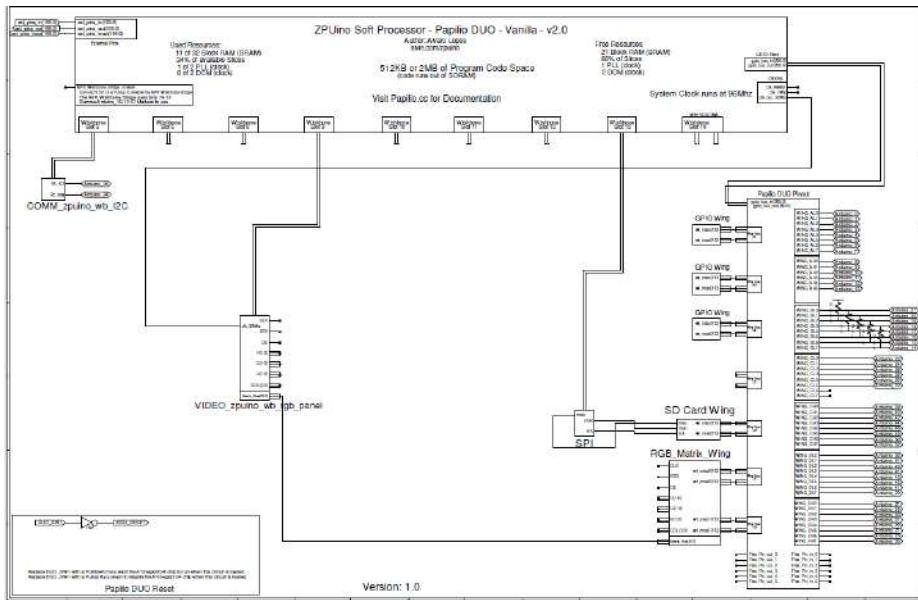

Figure 7-14 Matrixman circuit view
2. To view your design, click View Circuit in the top toolbar. A PDF file of the top-level schematic will open, as seen in Figure 7-14.